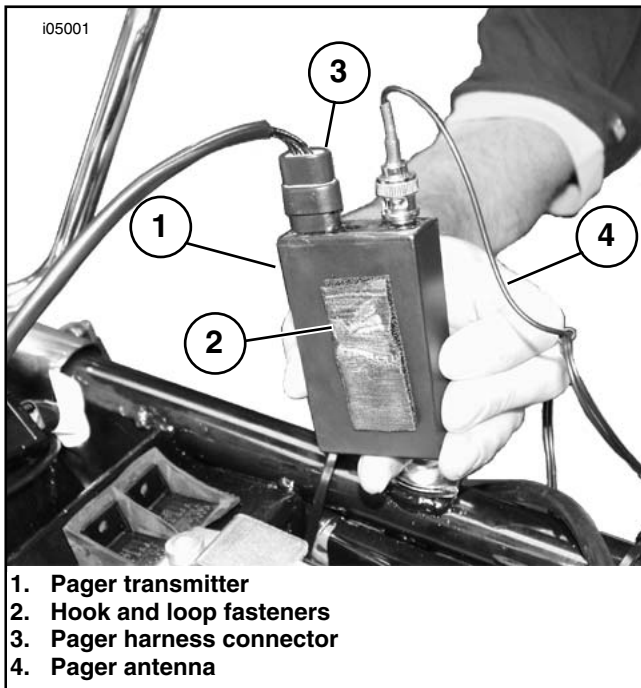

Figure 19. Connect Antenna and Pager Harness
14. See Figure 19. Clean the mounting surfaces of the pager transmitter (1) and battery using alcohol or other suitable cleaner.
15. Assemble hook and loop (2) fasteners. Remove the backing from one side, and apply to the back of the pager transmitter.
16. Connect the pager harness connector (3) to the pager transmitter.
17. Connector the pager antenna (4) to the pager transmitter.